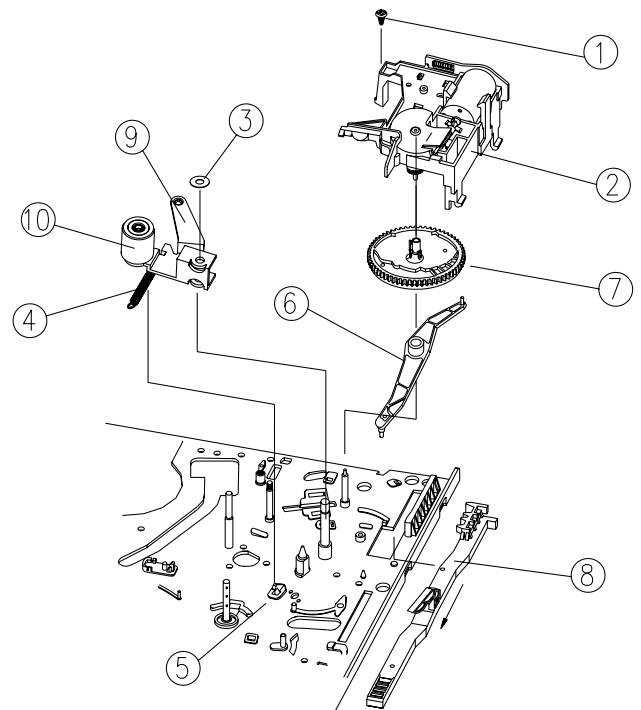

Fig.3-11 L/C BRKT, PINCH LEVER, CAM GEAR, RELAY LEVER, F/L RACK REMOVAL
3-6. L/C BRACKET ASS'Y REMOVAL (See Fig.3-11)
TOTAL ASS'Y REMOVAL (See Fig.3-11)
3-8. CAM GEAR, RELAY LEVER AND F/L RACK REMOVAL (See Fig.3-11)
- Remove the CAM GEAR ⑦ from the MAINBASE. (Fig.3-11)
- Remove the RELAY LEVER ⑥ from the MAINBASE. (Fig. 3-11)
- Remove the F/L RACK ⑧ from the MAINBASE by pulling it in the direction of the arrow.